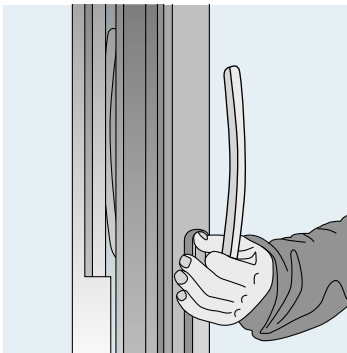

Figure 1
2. Take hold of the door lever handle and carefully move the master leaf towards the closed position while turning the handle downward (figure 1).